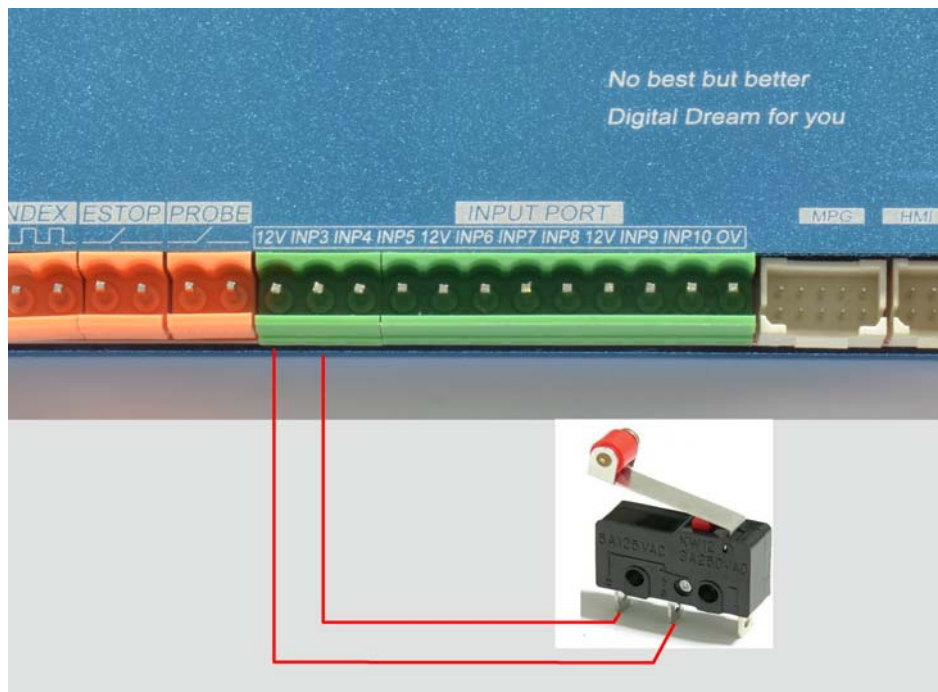

Figure2-8. General input connect to micro switch.
- H)General input port with opticalcoupler. See as Figure 2-8,2-wire micro switch and inductive switch connect method .Connect 12V and INPX (X=3,